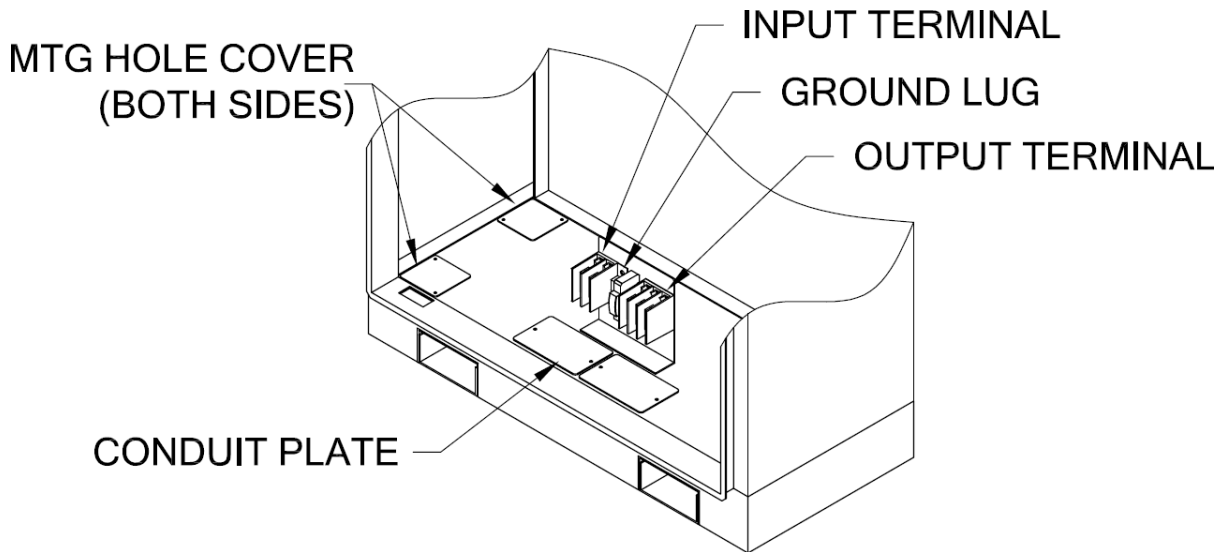
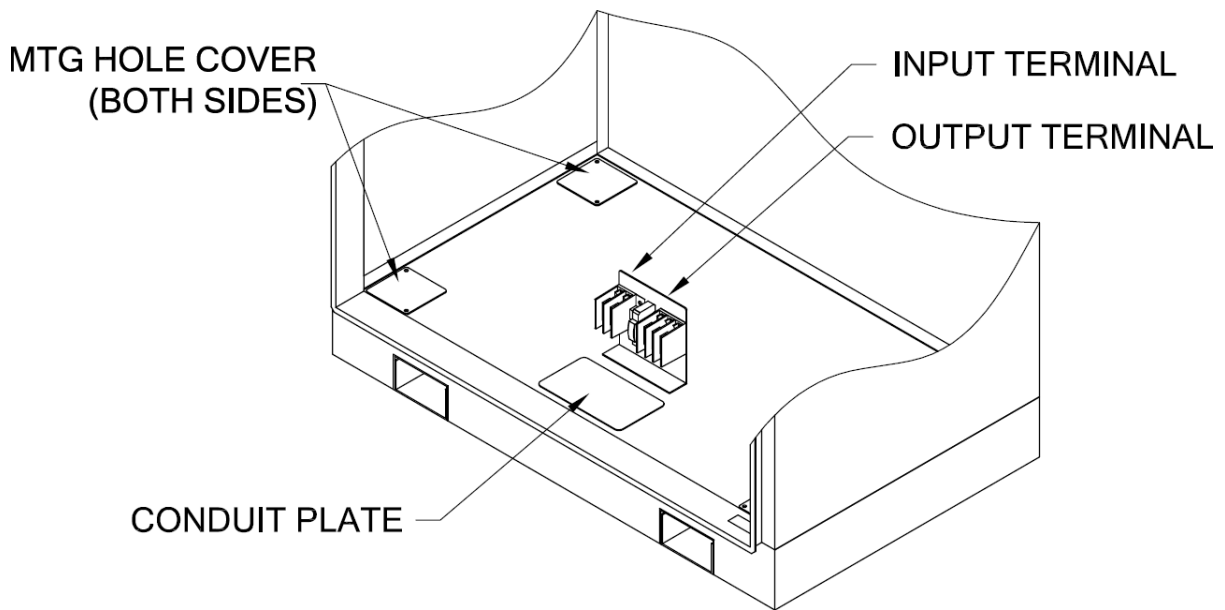

Figure 4-3 3KVA/3KW systems
Figure 4-4 All other systems
2. Anchor the cabinet to the mounting pad by removing the 4 corner mounting plates (see Figure 4-3 and Figure 4-4) for more detail.